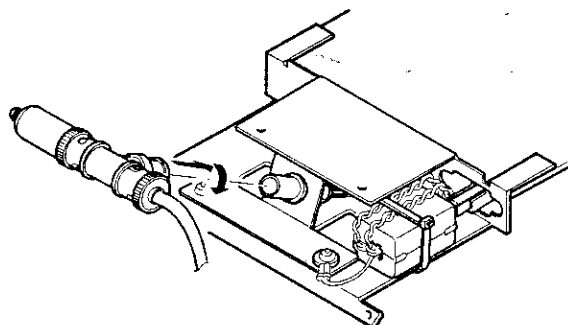

Fig. 2
② Connect the BNC-T connector to the internal cable. (Fig. 2)